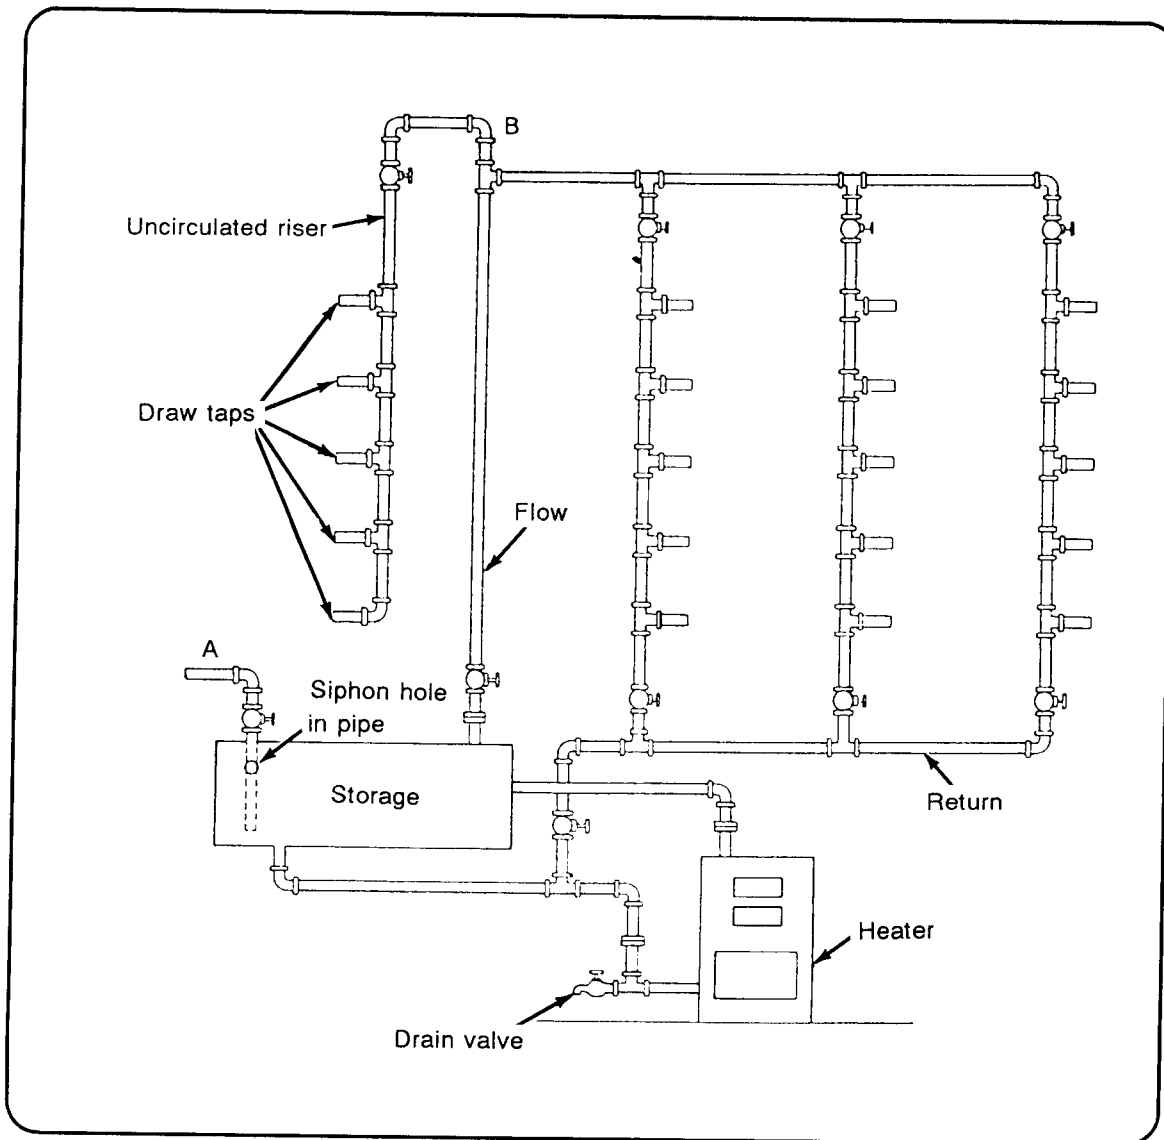

Figure 1-3. Circulating hot-water system (two-pipe)
(2) *Two-Pipe System.* To overcome this time lag, use a two-pipe circulating water supply system (Figure 1-3). Hot water passes from the water heater through the main fixture supply risers and returns through a line to the water heater. This looped system circulates the hot water at all times. Warm water tends to rise and cold water tends to fall, creating circulation. The water within the loop is kept at a high temperature. When a tap is opened, hot water flows from the hot-water supply riser into the branch and out of the tap. The cold-water filler within the hot-water storage tank (water heater) has a siphon hole near the top of the tank. If reduced pressure occurs at point A, the siphon hole allows air to enter the cold-water filler. This breaks the vacuum and prevents back siphonage of hot water into the cold-water distribution system.
This circulating supply system (Figure 1-3) is an overhead-feed and gravity-return system and is likely to become air-locked. An air lock prevents circulation of the hot water.